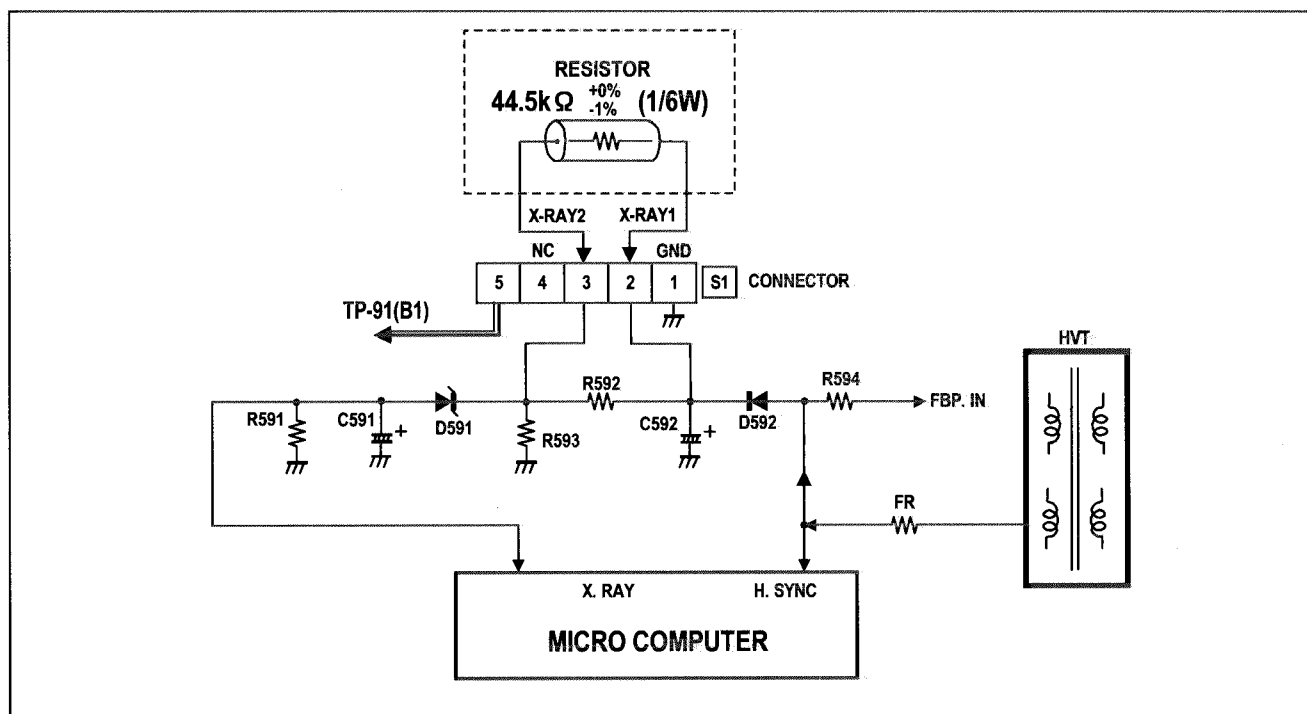

Fig. 1
- (1) Turn the POWER SW ON.
- (2) As shown in Fig.1, supply DC voltage (55.2V) to [S1] connector (between X-RAY1 and GND).
- (3) Make sure that the screen picture disappears.
- (4) Temporarily unplug the power cord.
- (5) Remove the DC power supply.
- (6) Again plug the power cord, make sure that the normal picture is displayed on the screen.